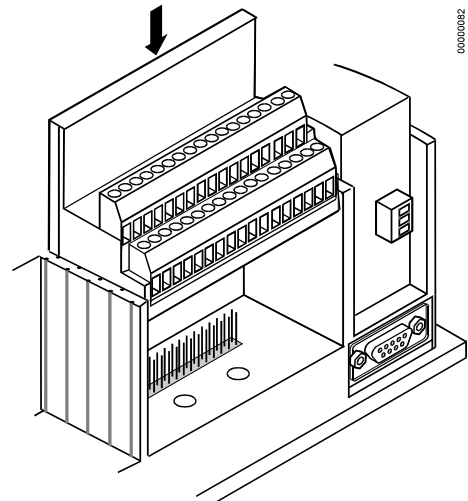

Fig. 33. Attaching of screw terminal blocks
13. Attach the terminal blocks to the housing as shown in Fig. 33.